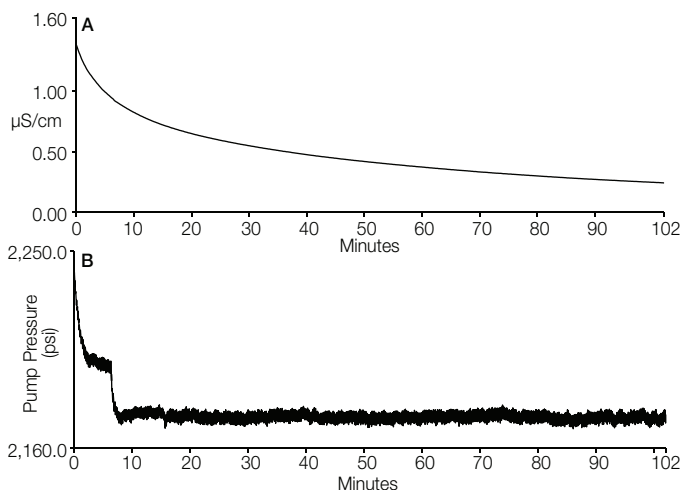

Figure 6. Baseline monitoring for cation system (A) chromatogram: conductivity monitoring; (B) chromatogram: pump pressure monitoring.
7. Monitor the baseline (Figure 6) under the method conditions listed in Table 2. Do not run samples until the background conductivity is ≤ 0.5 μ S and noise is ≤ 1 nS.